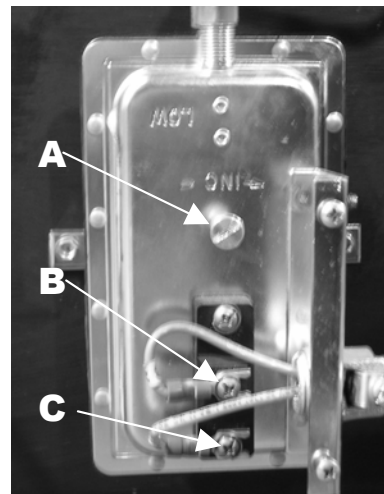

Figure 8 Air Flow Switch
17. Combustion air-flow switch. An airflow switch is provided to prove that air is being provided to the burners before main flame can be established. The airflow switch can be adjusted by turning the screw (Figure 8 item A) clockwise to increase the pressure setting and counter-clockwise to decrease the pressure setting. The switch will open on pressure drop. When the blower is running there should be continuity between the common and the normally open contacts (Figure 8 item B and C). When the blower is interrupted the switch should open and cause a safety shutdown.